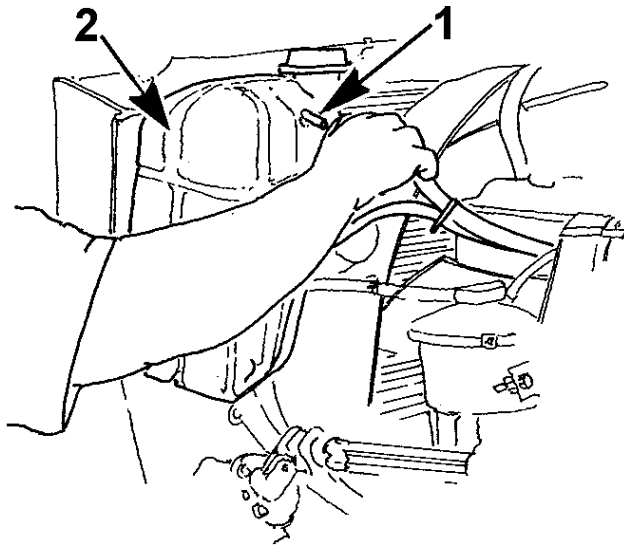

Figure 6 Overflow Tube Remove
2. Disconnect harness connection to sensor and remove hose clamp securing overflow tube from surge tank. Disconnect overflow tube (Item 1, Figure 6).